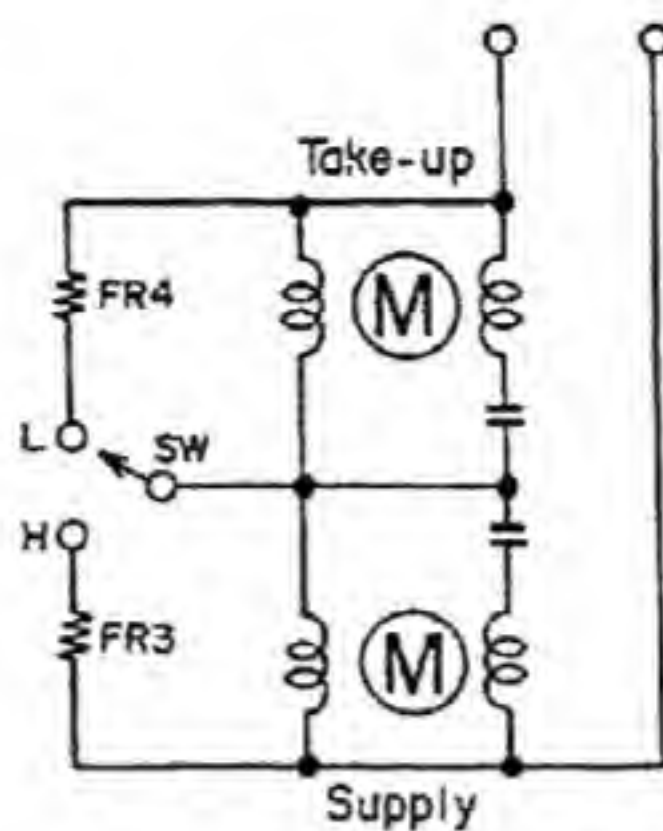

Fig. 31
When the switch of PH1-2 is ON, the gate of SCR2 becomes "L" and SCR2 is turned OFF. When SCR2 is OFF, no current will run to R132 and there will be no potential difference between the gate and the anode of SCR4 (triode AC switch), and therefore it will be OFF. On the other hand, since PH1-1 is OFF, SCR1 will be ON and SCR3 ON. This means that FR2 39 ohms, instead of R124 36 ohms, is connected in parallel to the take up reel motor and the RWD mode is maintained. Now, the signal of IC2 (22) is considered. IC2 (6) (interrupt) receives the signal (input to real time counter) from the Detector P.C Board. The counter starts counting the input signal of (6) every 25 msec from 0:00:50. This data is compared with the data written in IC2 and when the reel motor is running at a speed faster than the data, "H" signal is issued to (22). The switch in Fig. 31 goes to H side, the mode similar to FF is achieved and apparently the brake is applied.